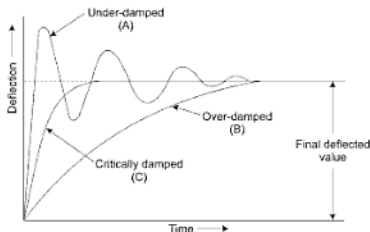

Fig. 4.3
We have already seen that the moving system of the instrument will tend to move under the action of the deflecting torque. But on account of the control torque it will try to occupy a position of rest where the two torques are equal. Due to inertia of the moving system, the pointer will not come to rest immediately but oscillate about its final deflected position as shown in Fig. 4.3.
- (i) *Critically damped*—If the pointer moves quickly to its final deflected value, the instrument is called ‘critically damped’ or ‘dead beat’ as shown by curve C is Fig. 4.3.